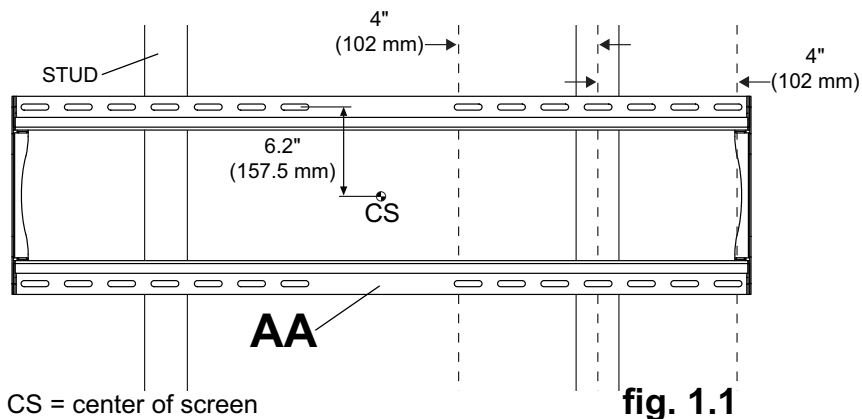
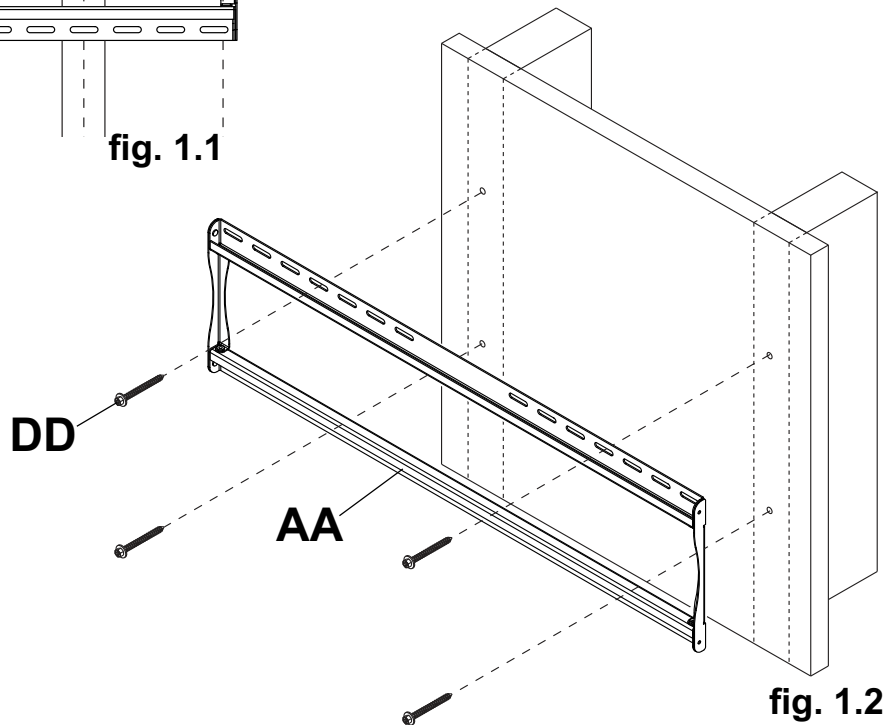

fig. 1.1
fig. 1.2
1 Wall plate (**AA**) can be mounted to two studs that are 16" apart. Use a stud finder to locate the edges of the studs. Use of an edge-to-edge stud finder is highly recommended. Based on their edges, draw a vertical line down each stud's center. Place wall plate on wall as a template. The top mounting slots should be located 6.2" (157.5 mm) above the desired screen center as shown in figure 1.1. Level plate, and mark the center of the four mounting holes. Make sure that the mounting holes are on the stud centerlines. Drill four 5/32" (4 mm) dia. holes 2.5" (64 mm) deep. Make sure that the wall plate is level, secure it using four #14 x 63.5 mm wood screws (**DD**) as shown in figure 1.2.
NOTE: Wall plate may be mounted up to 4" (102 mm) off center as shown in figure 1.1.
- 1** Make sure that wall plate (AA) is level, use it as a template to mark four mounting holes. The top mounting slots should be located 6.2" (157.5 mm) above the desired screen center as shown in figure 1.1 on page 5. Drill four 5/16" (8 mm) dia. holes to a minimum depth of 2.5" (64 mm). Insert anchors (EE) in holes flush with wall as shown (right). Place wall plate over anchors and secure with #14 x 63.5 mm screws (DD). Level, then tighten all fasteners.